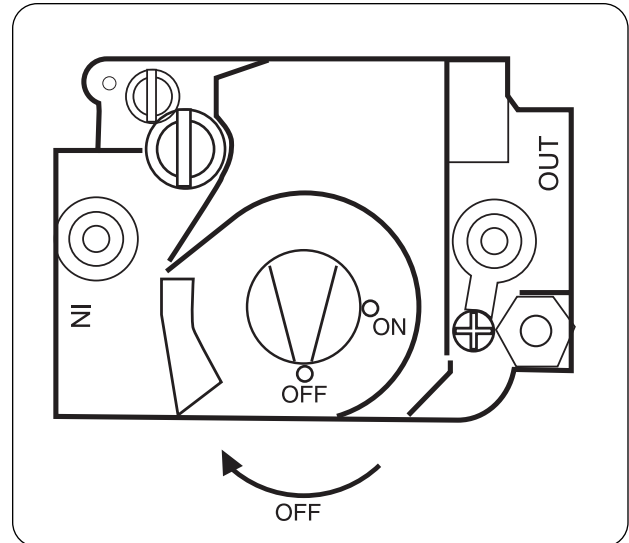

Figure 11. Gas Valve - Top View
5. Turn gas control knob clockwise to OFF. (See Figure 11.)
6. Wait five (5) minutes to clear out any gas. If you smell gas **STOP!** Follow "B" in the safety information under Start Up Procedures. If you do not smell gas, continue to the next step.